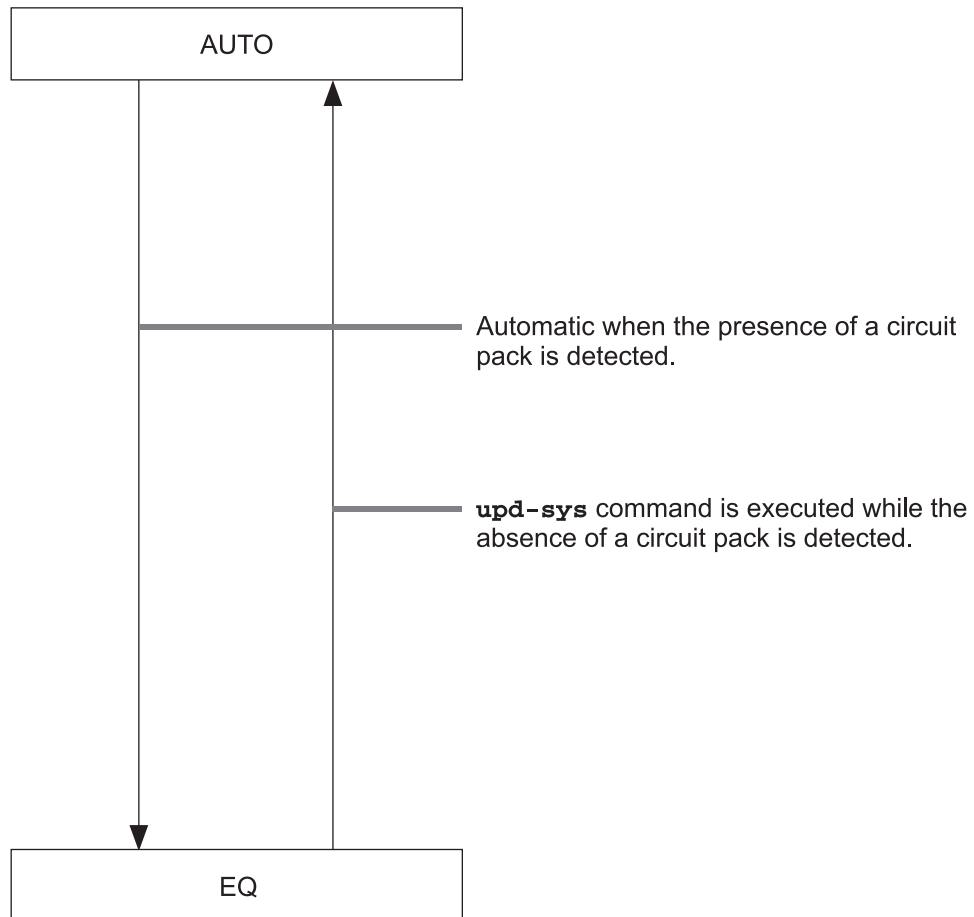

Figure C-3. OA, TLM, and OTU Circuit Pack Slot States
■ Figure C-3: OA, TLM, and OTU Circuit Pack Slot States	C-5